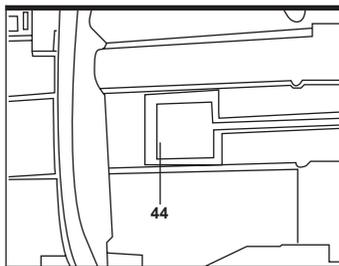

Fig 13
1) Open the side cover (3).
2) Remove the blade (23) (see assembly item 8).
3) Lift the edge of the tire (46) with a small screwdriver (f) and remove from the band pulley (5).
4) Repeat for the lower band pulley (8).
5) Fit the new tire (46), replace the blade (23) and close the side cover (3)
10. Changing the table insert (See Fig13)